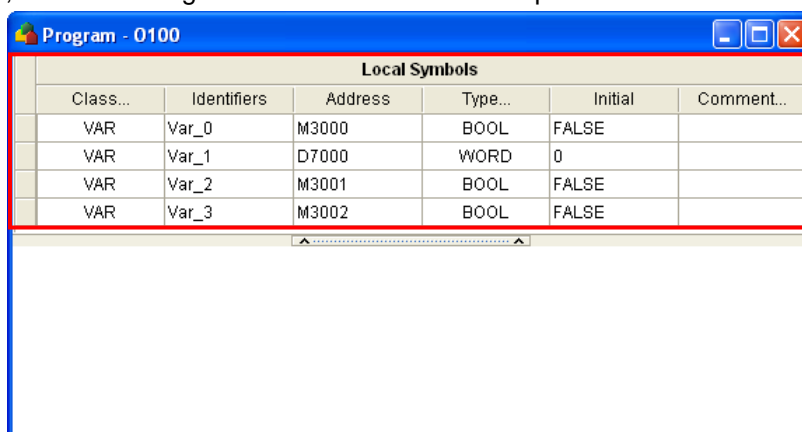

Figure 12-5 Creating local symbols in a program editing window
- (2) After a POU is created, PMSOft will automatically open a program editing window. The users can use the PMSOft toolbar in the window, and create local symbols in the local symbol table in the window, as shown in figure 12-5. Please refer to chapter 4 for more information.